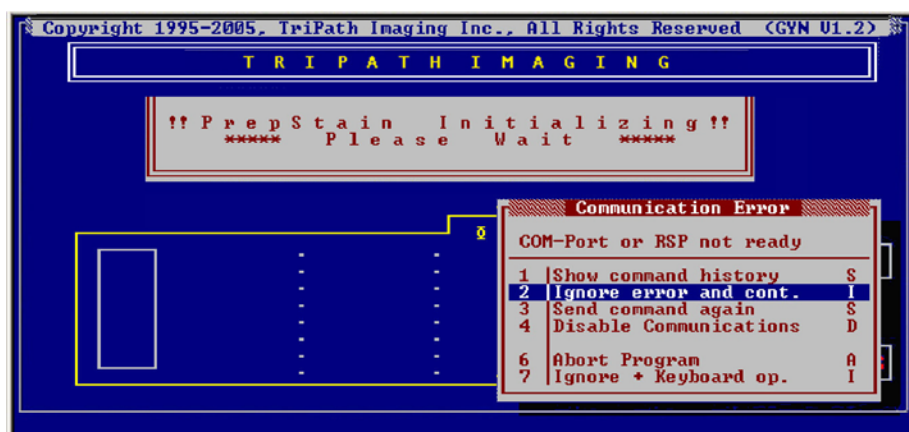

Figure 7-1 Error message display screen
There are a number of errors that the PrepStain instrument can detect. When one of these errors is detected, the PC monitor displays an error message as illustrated in *Figure 7-1*.
1. Select option `Ignore + Keyboard op.` See Figure 7-1 for example, where it is option 7 in the list. (May not always be option 7.)